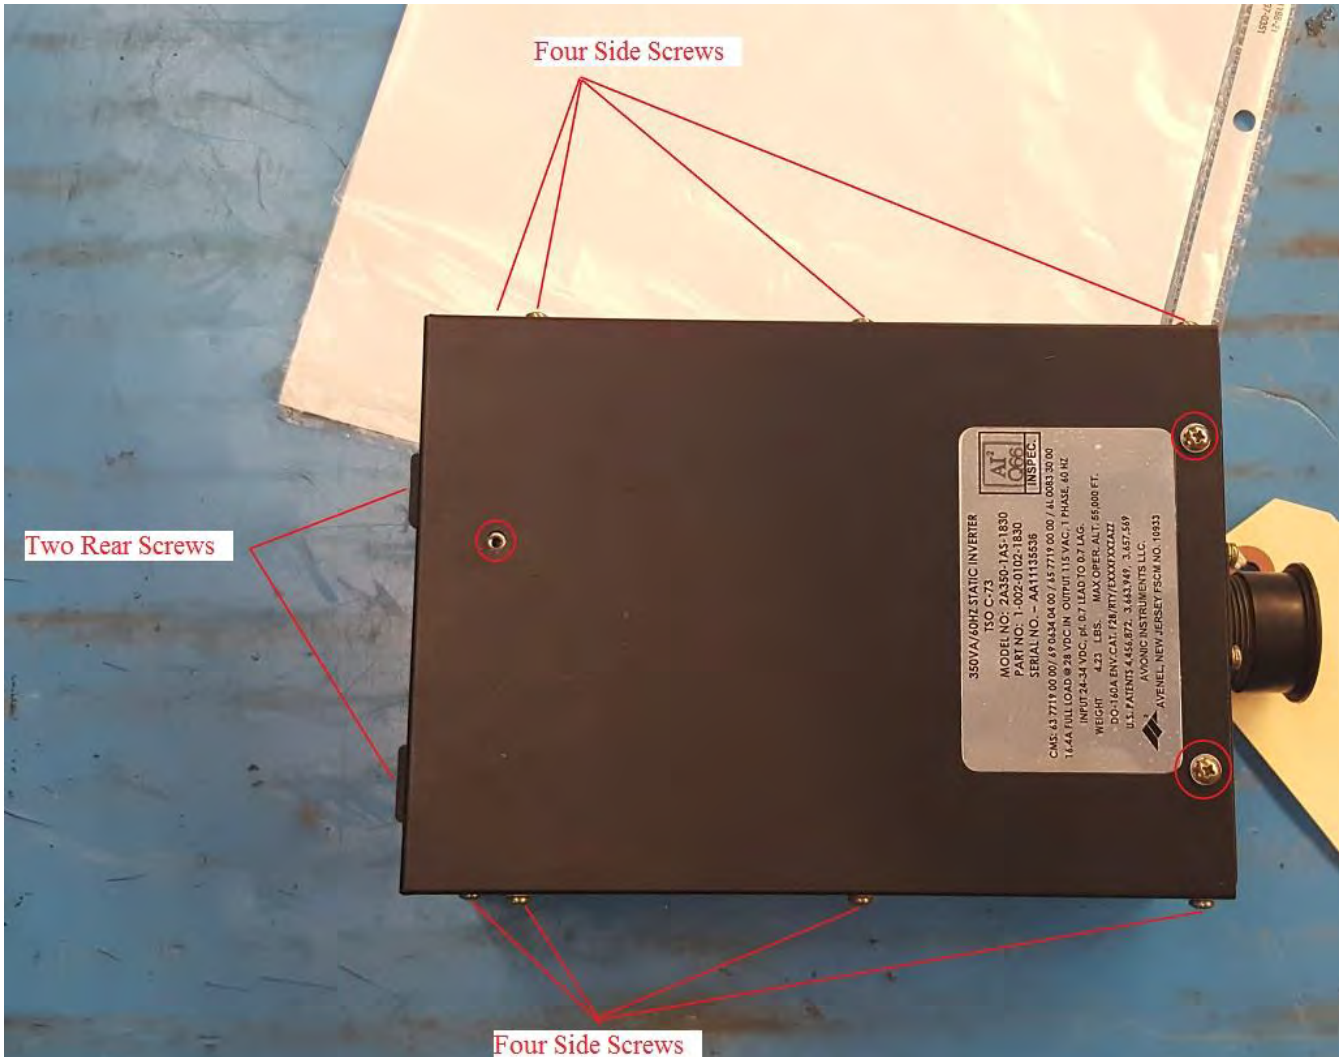

Figure 1 – Top Cover View (Exterior Screw Locations)
1. Remove three (3) top screws, two (2) rear screws and eight (8) side screws from the top cover of the unit. All screws in this step use washers (Figure 1).